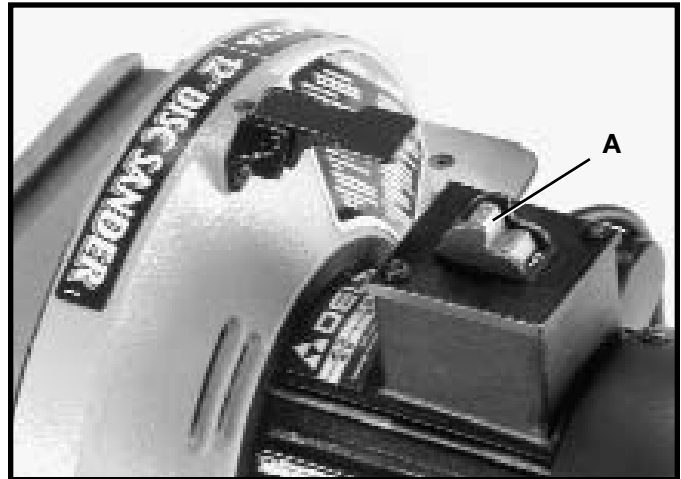

Fig. 8
The switch (A) Fig. 8, is located on the top of the motor. To turn sander "ON" move switch (A) toward rear of sander. To turn the sander "OFF" move switch (A) to the front position as shown.